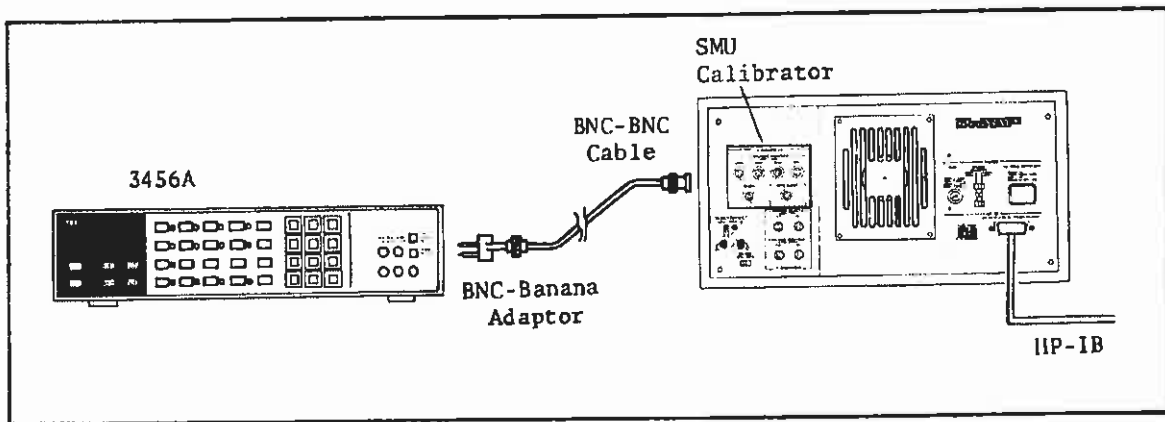

Figure 4-1. SMU Accuracy Test Setup
- (2) Connect the 16347A Callibrator to the 4141B's rear panel I•V CHANNELS connectors. Next, connect the DVM to the GNDU-V connector of the 16347A with a BNC-to-BNC cable as shown in Figure 4-1. Press the 'NEXT' softkey to start the GNDU Test.
To test the accuracy of the 4141B's Ground Unit, press the 'GNDU TEST' softkey on the MENU page and follow the displayed instructions. Connect the 16347A to the 4141B, and connect the DVM to the 16347A as shown in Figure 4-1. During this test, all four SMUs force  $\pm 400\text{mA}$  to the GNDU, and the DVM measures the offset value. The PV4141 program then calculates the offset value as if  $\pm 500\text{mA}$  were forced to the GNDU, and uses the measured offset value and this calculated value to obtain and output measurement results. An example of GNDU test results is as follows.